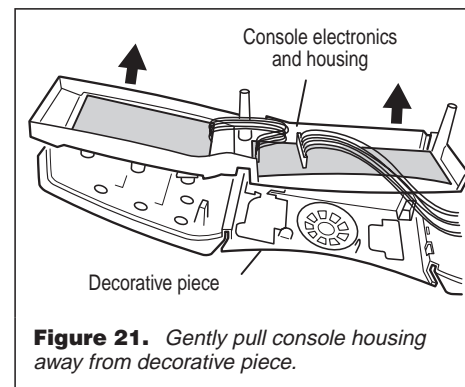

Figure 21. Gently pull console housing away from decorative piece.
5. Gently pull the console electronics housing away from the decorative piece. See figure 21.